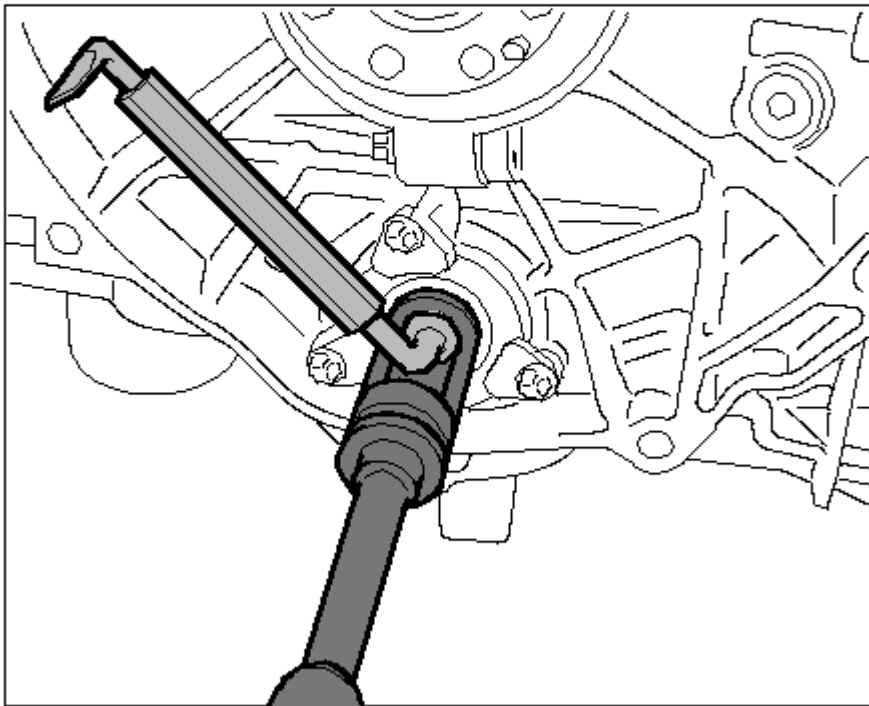

Fig. 146: Threaded joint with collar nut on bearing cover for intermediate shaft
7. Loosen M12 hexagon collar nut (a/f 22) on bearing cover for intermediate shaft with special tool **assembly tool P 9673/1** and screw it off --> *Threaded joint with collar nut on bearing cover for intermediate shaft* . See **Fig. 146**.